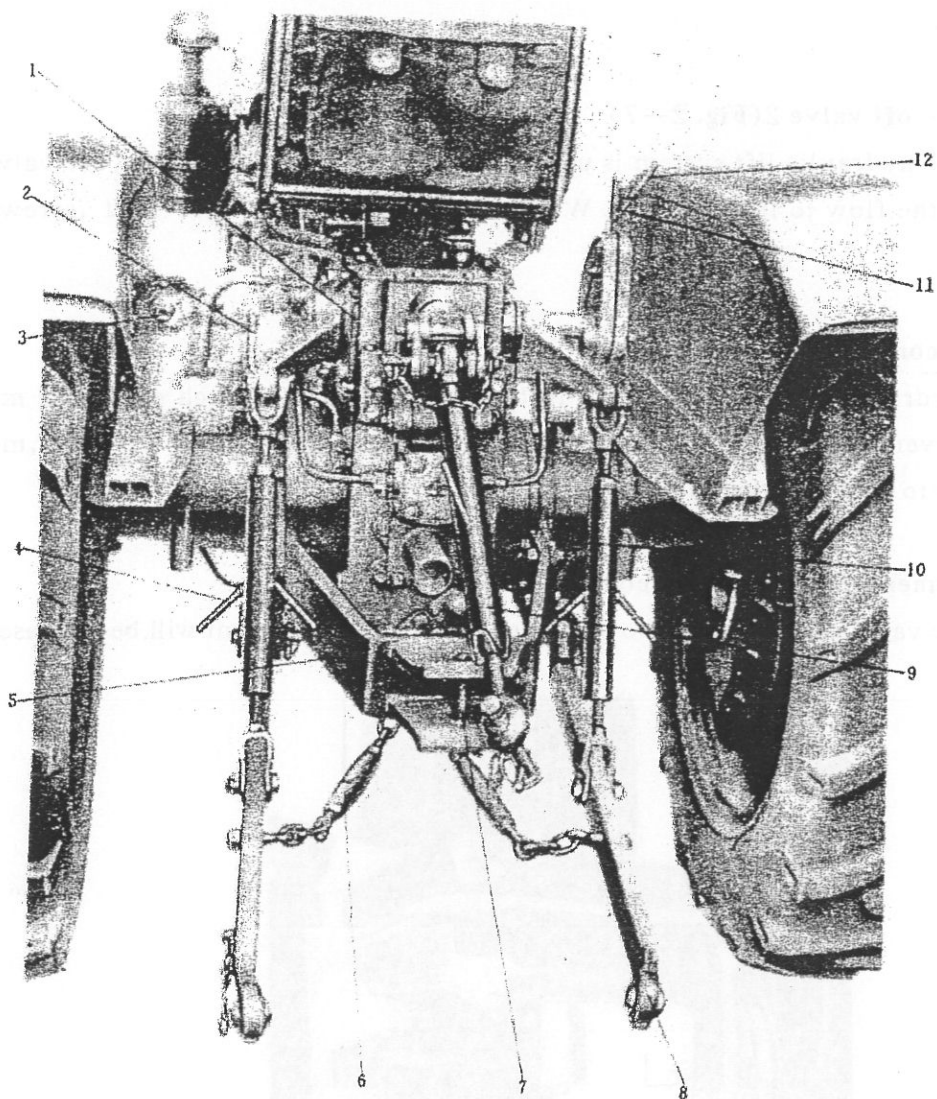

Fig. 2-6
21) Draft and position control levers 15, 14 (Fig. 2-6)
22) Electrical connector 3 (Fig. 2-6)